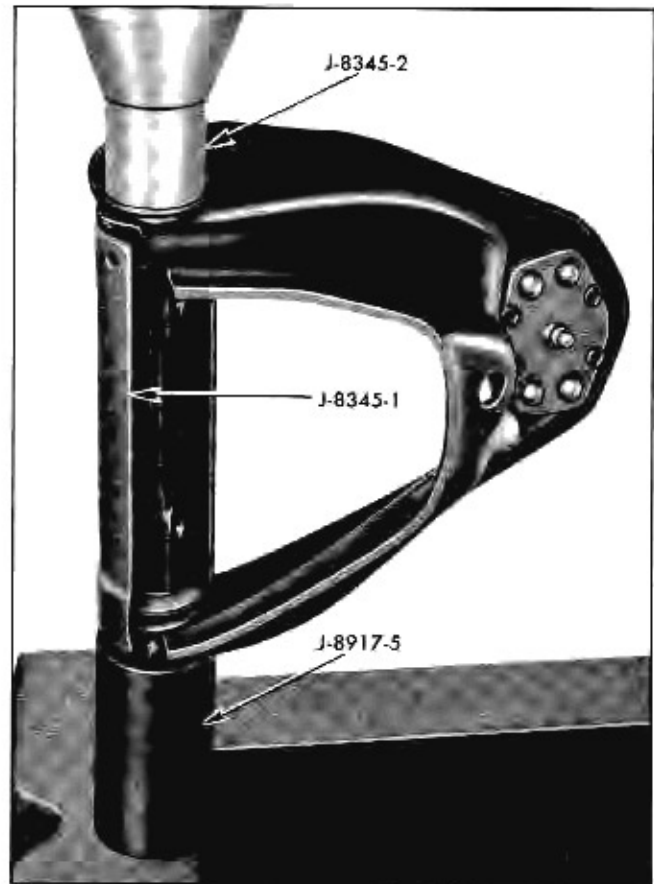

Fig. 3-25 Installing Cross Shaft and Bushing
2. Install cross shaft in arm and press in second bushing as shown in Fig. 3-25, Tool J-8345-1 must be in place to keep arm from flexing. This second bushing must be installed from the outside of arm.